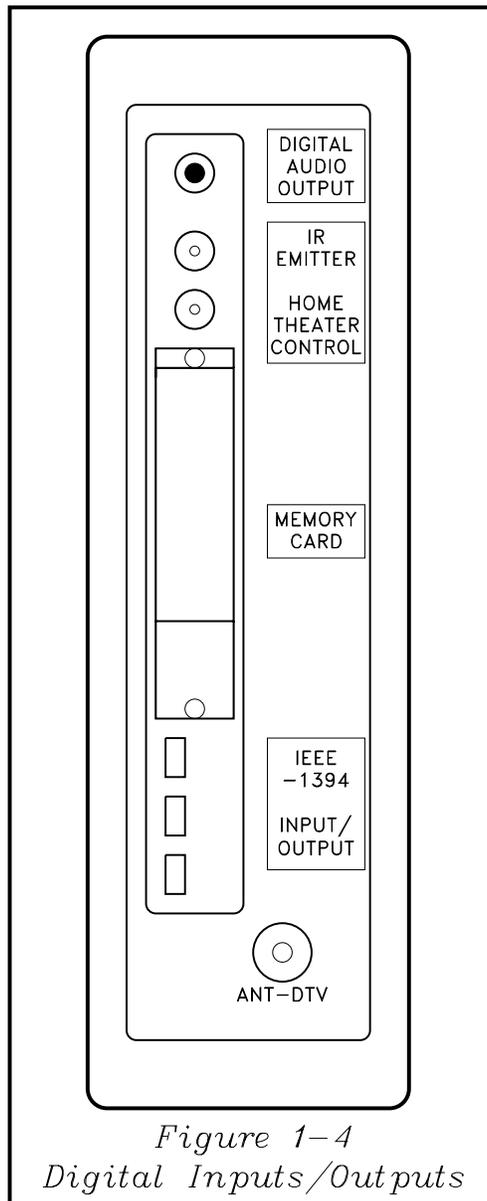

Figure 1-4
**Digital Analog Inputs & Outputs** are located on the rear of the TV and are shown in *Figure 1-4*. These include: